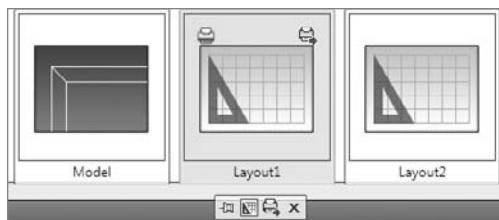

FIGURE 14.17 The drawing's layouts shown using the Quick View Layouts tool
1. Click the Quick View Layouts button next to the Layout button in the status bar to turn on the option. Small thumbnail representations of the existing layouts appear at the bottom of the drawing area, as shown in Figure 14.17.